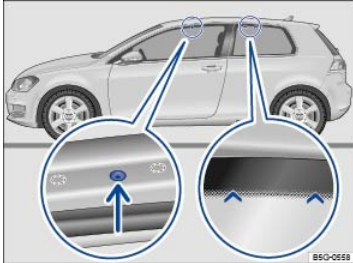
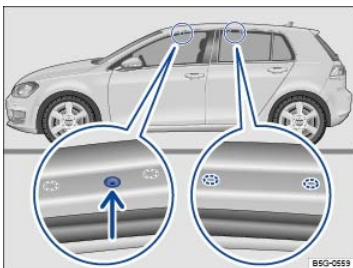

Fig. 187 Mounting points for the base carrier and roof rack on 2-door vehicles.
Fig. 188 Mounting points for the base carrier and roof rack on 4-door vehicles.
The front mounting holes are on the underside of the roof frame. They are sealed with plastic screws that must be removed before installation ⇒ Fig. 187 (magnified view on left). The holes are only visible when the door is open. The rear markings for the base carrier are above the rear side windows ⇒ Fig. 187 (magnified view on right).
The front mounting holes are on the underside of the roof frame. They are sealed with plastic screws that must be removed before installation ⇒ Fig. 188 (magnified view on left). The rear markings for the base carrier are on the underside of the roof frame ⇒ Fig. 188 (magnified view on right).
- Secure the roof rack base carrier only at the attachment points shown in the illustration ⇒ Fig. 187 or ⇒ Fig. 188.